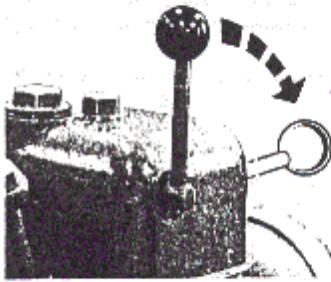

Fig. 5. Decompression lever
- 3b. Engine with hand starting. Put the decompression lever in vertical position (Fig. 5). Crank the engine as quickly as possible by means of the starting handle and move the decompression lever to its horizontal position during continued cranking. The starting is facilitated by using the cold starting device.